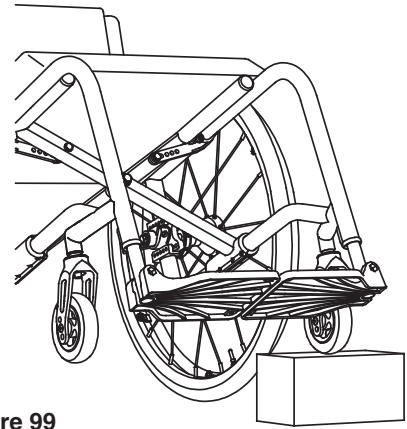

Figure 99
4. Place a wood block under the other caster wheel (which is not floating) as shown in Figure 99.